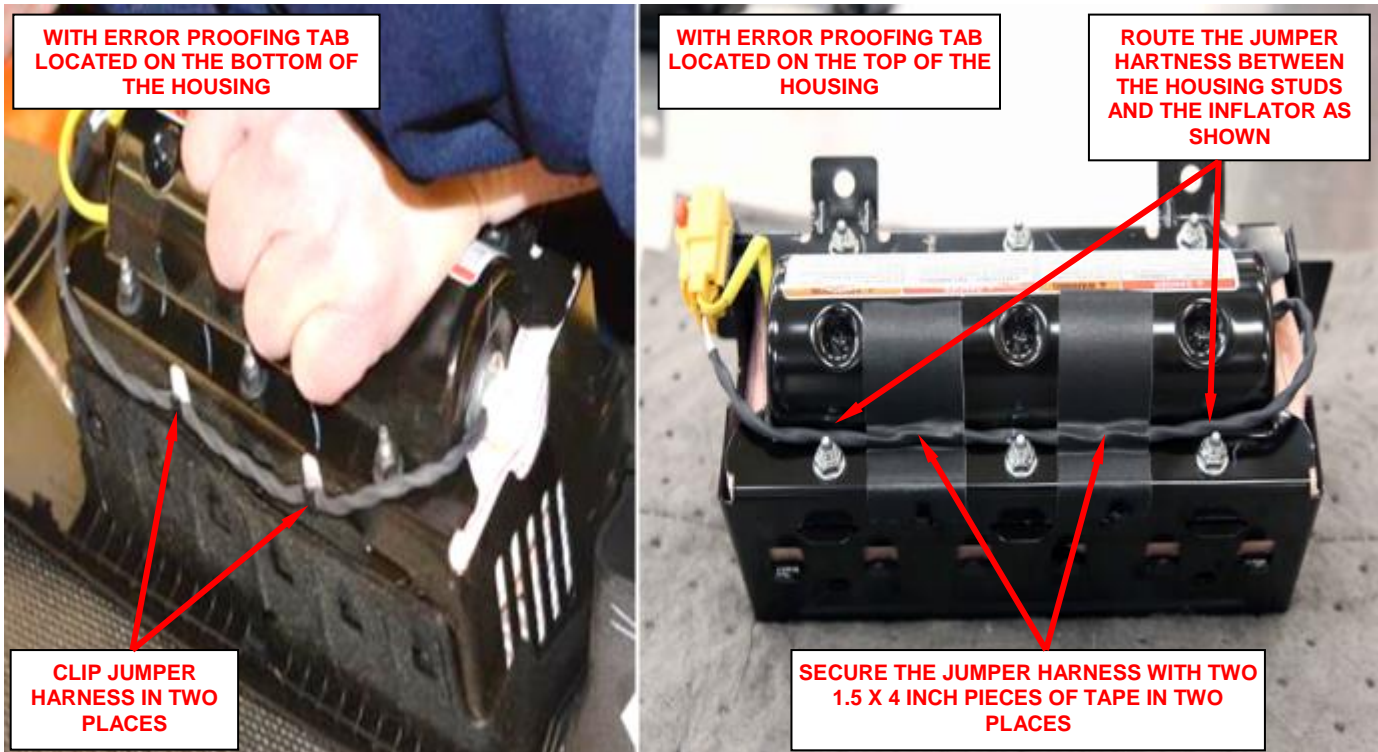

Figure 28 – Wire Jumper Routing
NOTE: The wire harness jumper routing is different depending on the location of the error proofing tab (Figure 28).
- p. Route the wire harness jumper on the housing (Figure 28).
- For vehicles with the error proofing tab located on the **bottom** of the housing, clip the wire harness jumper to the housing in two places (Figure 28).
- For vehicles with the error proofing tab located on the **top** of the housing, route the wire harness jumper to the housing as shown and tape in two places as shown (Figure 28).
NOTE: Use tape part number 68303542AB or equivalent. One 68303542AB patch can be cut into two pieces approximately 1.5 x 4 inches (Figure 28).